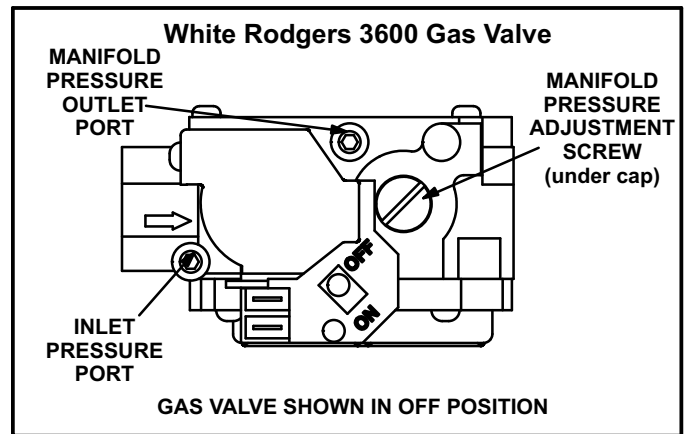

FIGURE 27
- 5 - A 3 mm (1/8") N.P.T. plugged tap or pressure port is located on the gas valve to facilitate test gauge connection. See figure 27.
- 6 - Move lever on gas valve to **OFF**. See figure 27.
- 8 - Move lever on gas valve to **ON**. See figure 27.
- 4 - Move lever on gas valve to **OFF**. See figure 27.
The White Rodgers 36G24 gas valve (figure 27) is equipped with pressure posts for measuring supply and manifold pressures. The posts provide built-in 7.9mm (5/16") hose connections and have an integral 2.4mm (3/32") Allen-head screw. Rotate the screw counterclockwise one full turn to permit pressure measurement. Reseat the screw (rotate one full turn clockwise) after measurements have been taken to prevent gas leakage.
After the line pressure has been checked and adjusted, check the manifold pressure per table 5. See figure 27 for the location of the manifold pressure adjustment screw.